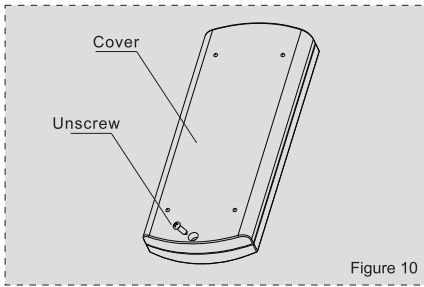

Figure 10
1. Use a screwdriver to unscrew and remove the cover of the remote control (Figure 10);